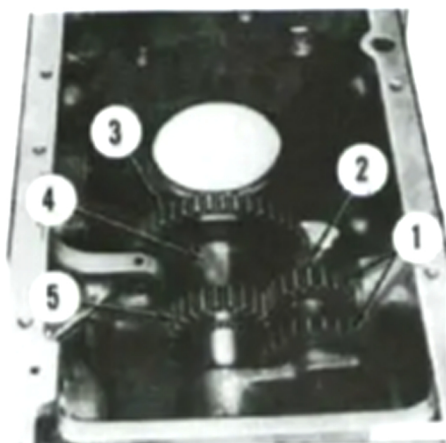

Fig. 93 - Countershaft in range transmission of Model 684, 784 or 884.
On all models, unbolt bevel pinion shaft bearing cage and remove gears and park brake drum as shaft and bearing cage assembly is withdrawn. Keep shims with bearing cage. Remove the countershaft front bearing retainer ring and unseat the snap ring to the rear of low drive gear. Drive the countershaft forward and remove the gears and spacer. On Models 684, 784 and 884, drive out roll pin (2-Fig. 93) and remove reverse idler shaft and gear (1).